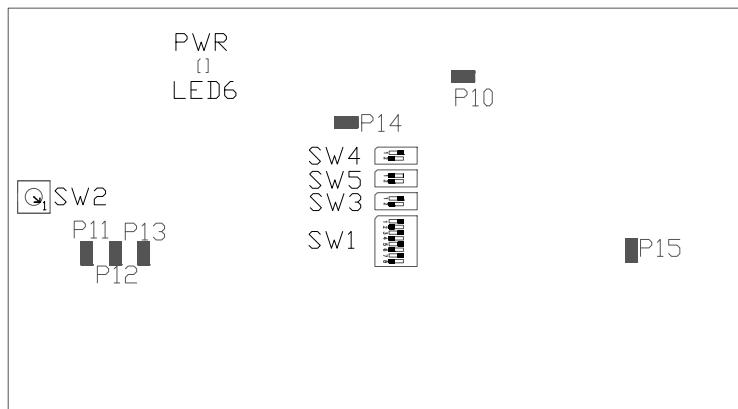

Figure 1-1. EZ-KIT Lite Hardware Setup
**Figure 1-1** shows the default jumper and switch settings and LED used in installation. There are four nylon standoffs in a bag included in the box. They can be installed in the four corner mounting holes (MH1, MH7, MH8, MH9) if desired. Place the nylon standoff in the hole and tighten a hex nut on each. Confirm that your board is in the default configuration before using the board.